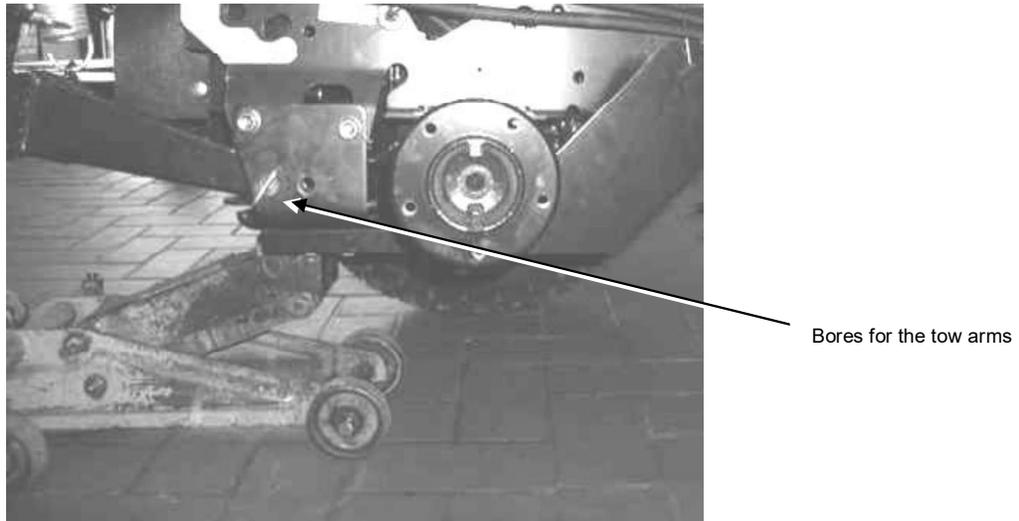
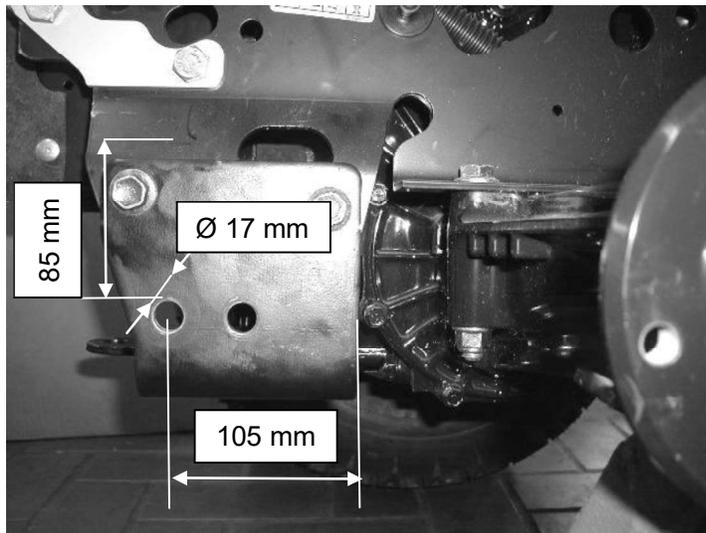

Fig. 4: Bore for tow arm
Fig. 5: Bores for the tow arms (dimensions shown)
4. On both sides of the tractor frame drill the two mounting bores (\varnothing 17 mm) for the tow arms (6) (see Fig. 4 and Fig. 5).